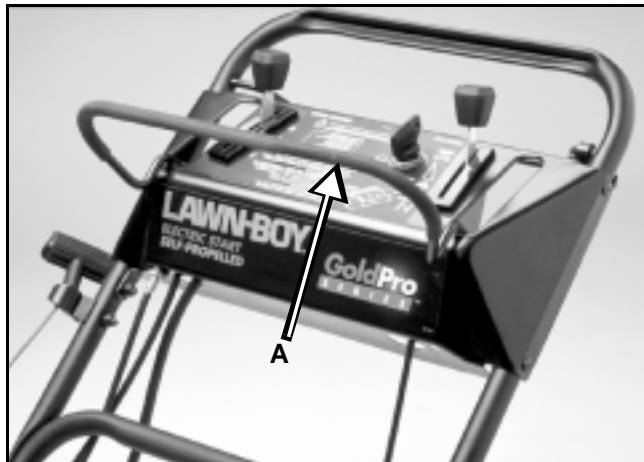

Figure 86
One of the ways the Lawn-Boy Corporation met these requirements was with the "zone start system." This system utilizes a kill switch and a brake, which stops the engine when the operator releases the blade control bail (A). (See Figure 86.) The two-step blade engagement criteria is met by requiring the operator to pull the bail to the handle first, then pull the recoil rope from the operator's position.
The switch is closed when the blade control bail is in the "at rest" (vertical) position. (See Figure 86.) Lowering the bail to the main mower handle opens the switch.